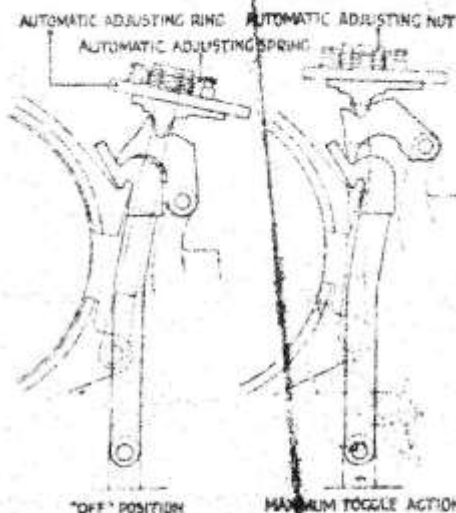

Fig. 1.
(1) This will mean that the toggle action has gone over centre and in this case the pushing out and release of the pedal, called "pumping up" should set the automatic adjustment (Fig. 1) in operation, thereby restoring the free movement to the pedal. If this result is not obtained, the fault lies in the automatic adjusting gear.
(2) The stop bolt may not be near enough to the adjusting ring, in which case a half turn or so out will set the adjusting ring working again.
(3) The automatic adjusting nut may be at the end of the thread on the pull rod, if this is found to be the case, counterbore the adjusting nut.
(4) The automatic adjusting nut may not be operating due to the adjusting spring being weak, this may be overcome by tensioning up this spring.
gear strut (Fig. 1) is jamming in the busbar, or that the spring has lost tension.